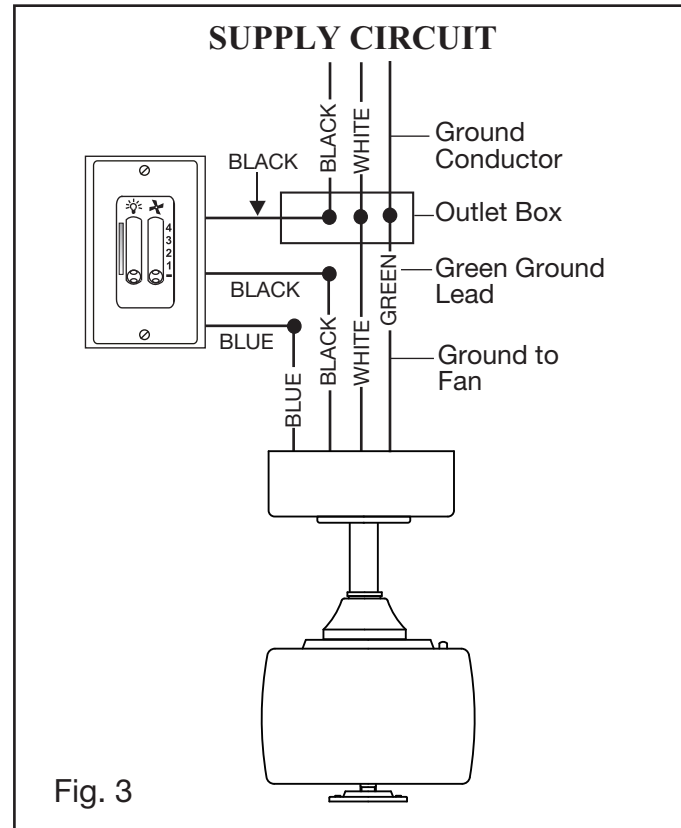

Fig. 3
- 1 Slip the yoke cover, trim ring and canopy onto the downrod. (Fig. 3)
b. Connecting the wires from the wall switch to the wires from the wall outlet box. (Fig. 3 & 4)
A DOWNWARD airflow creates a cooling effect as shown in Figure 3. This allows you to set your air conditioner on a warmer setting without affecting your comfort.